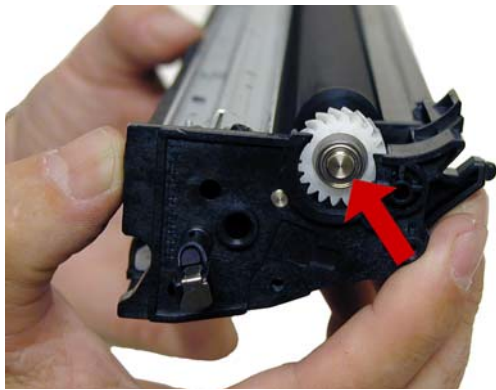

Figure 38
20) Remove the bearing from the developer roller shaft. See **Figure 38**.